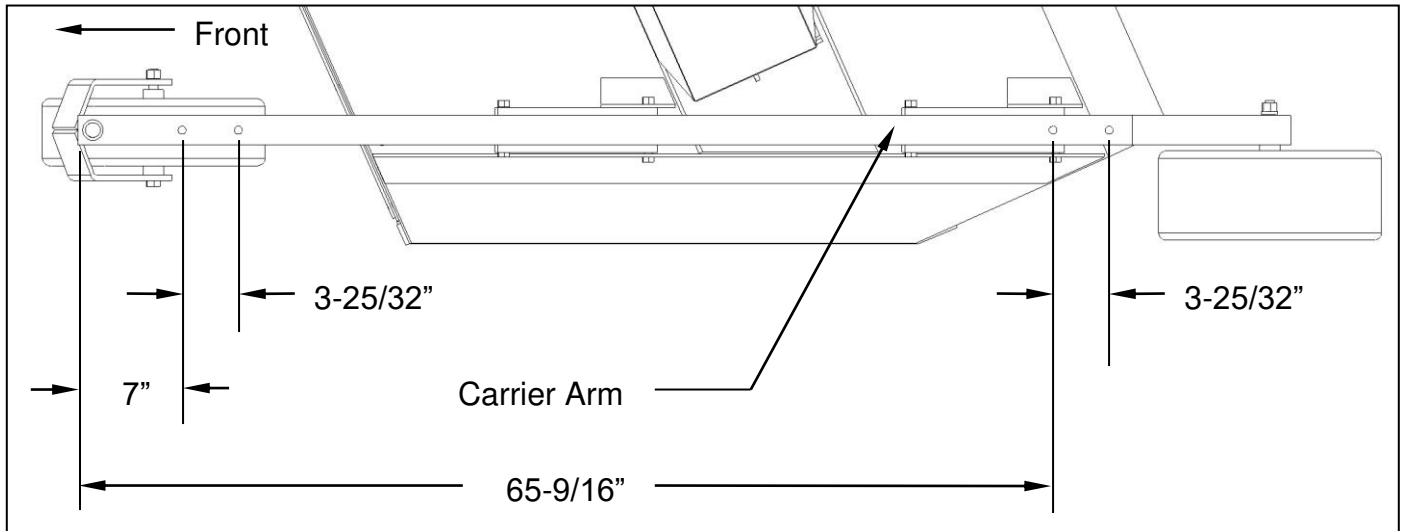
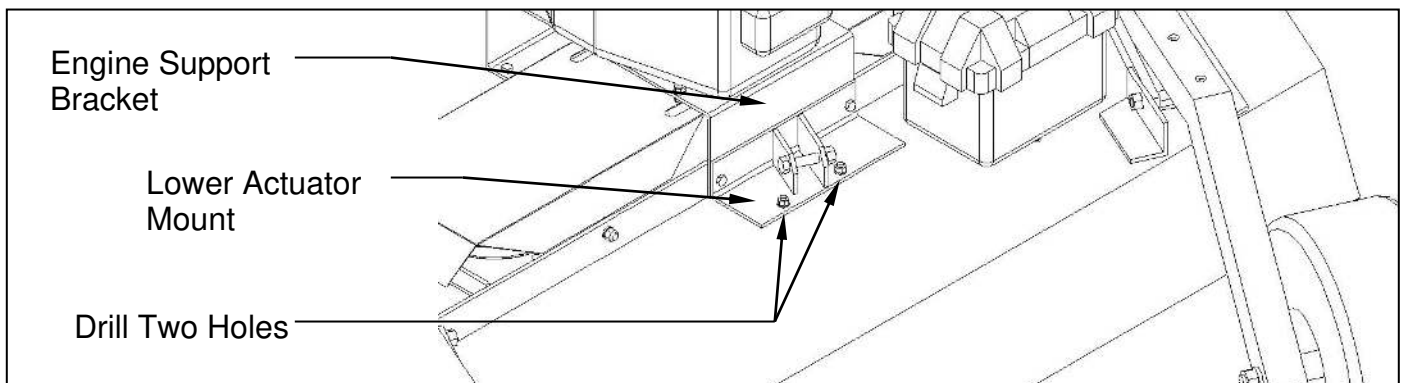

Figure 1. Carrier Arm Hole Location
Figure 2. Lower Actuator Mount Assembly
### A. CARRIER ARM PREPARATION (Refer to Figure 1.)
1. If your mower's carrier arms currently have the designated holes shown in Figure 1, refer to section B. If the electric lift kit and mower were purchased from the manufacturer at the same time and the lower actuator mount assembly is currently installed (See Figure 2), refer to section C. For carrier arm, rear wheel and tongue installation, refer to the main owner's manual.
**B. LOWER ACTUATOR MOUNT ASSEMBLY INSTALLATION (Refer to Figure 2.)**
2. Remove the two  $5/16"$  x  $3/4"$  bolts and two  $5/16"$  x  $1"$  bolts from the lower actuator mount assembly. Position the lower actuator mount assembly on the deck as shown in figure 2 and align the holes on the lower actuator mount, engine support bracket and deck frame. Insert the two  $5/16"$  x  $1"$  bolts and fasten securely with lock washers and nuts.